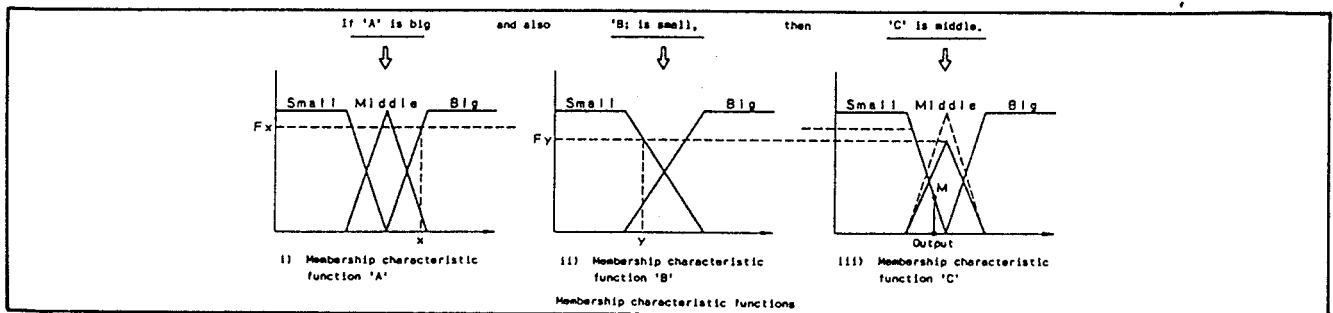

Fig. I-9
- 2) The rule of inference is based on the experience, knowledge and reasoning of the human. In this example, each parameter has the membership characteristic function shown in Fig. I-8. The expression "A is big" is indicated by the degree of set membership 'Fx', and the expression "B is small" is indicated by the degree of set membership 'Fy'. These degrees of set memberships 'Fx' and 'Fy' are ANDed. Therefore, the degree of set membership 'Fy' is related with the membership characteristic function "C is middle". In this fashion, the height level, i.e. the degree of consequent proposition is restricted as shown in Fig. I-9.
- 3) The conclusion is expressed by the X-coordinate value (M) corresponding to the gravity center in profile of output membership function 'C'. The coordinate value 'M' is assigned as a numeric value of control output 'C'. In the practical inference scheme, more parameters and rules are given.